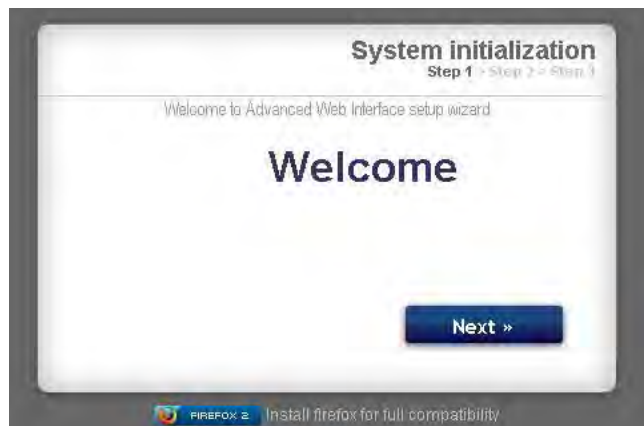

FIG. 39. System Initialization Step 1
- The Welcome screen will appear. See FIG. 39. Click Next.